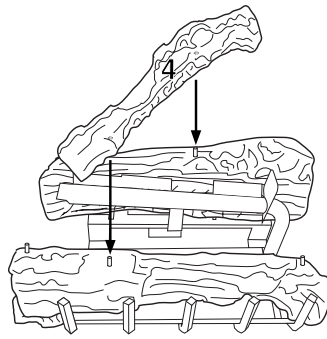

Figure 43 - Installing Log No. 4
4. Place log #4 (crossover log) onto pins from both logs #2 and #3 as shown in Figure 43.